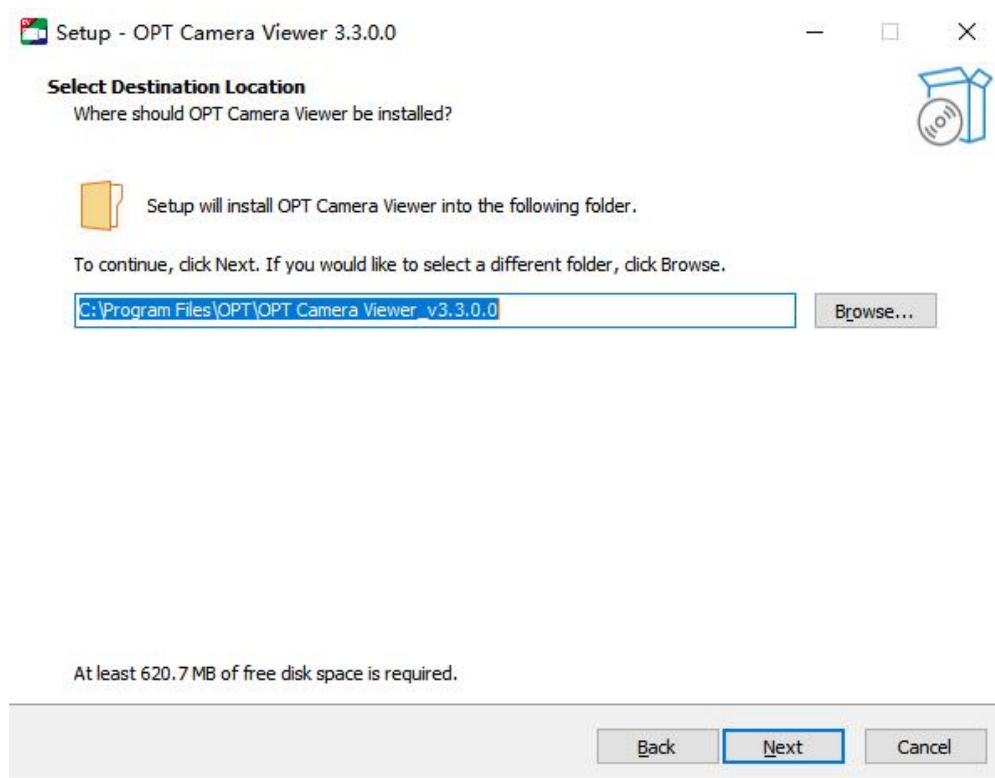

Figure 3-3 Installation folder window
4. Enter the installation folder window, as shown in Figure 3-3, select the software installation path (the default path is: C:\Program Files\OPT\OPT Camera Viewer_v3.2.0.0) and click the Next button to continue the installation process.